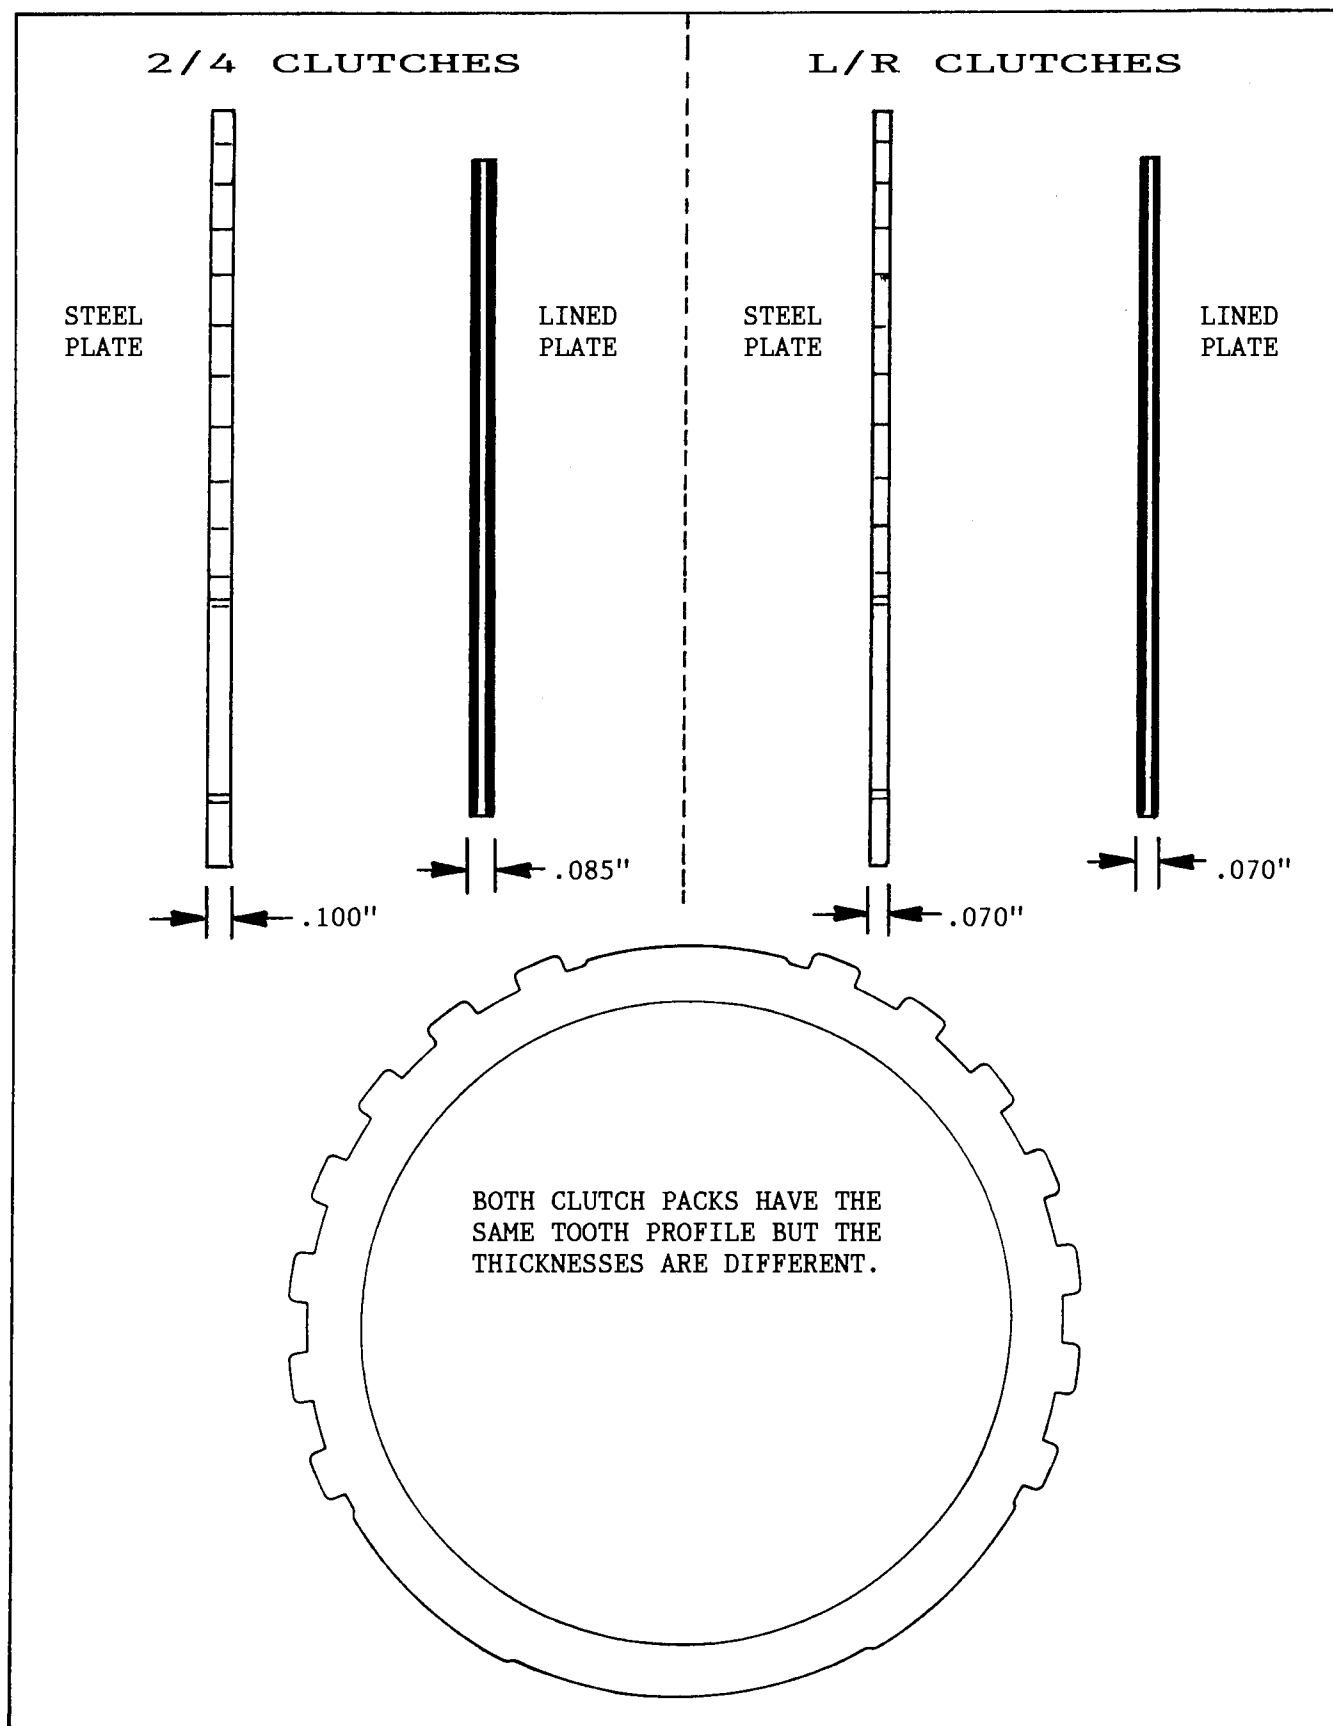

Figure 32
- (1) Both clutch packs, on the steel plates, have the same tooth profile, but the thicknesses are different (See Figure 32).
- (2) Both clutch packs, on the lined plates, have the same tooth count and the same lining, but the thicknesses are different (See Figure 32).